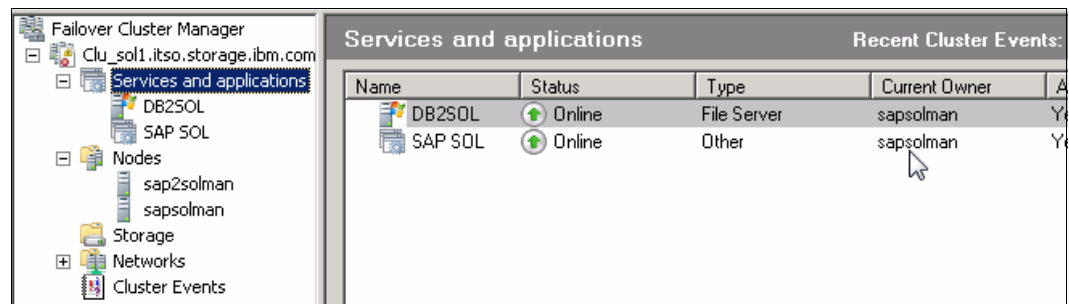

Figure 3-44 All resources are on node 1
6. Check that all resources are on node 1, where the Mirror Master side is defined, as shown in Figure 3-44.